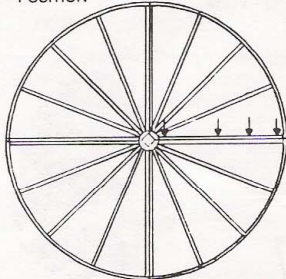

Figure 3.
**STEP 3** Place the two halves together, face down, line up the pre-drilled holes and place the 1/4"-20x2" bolts through the three outermost and one innermost holes. See Figure 3.